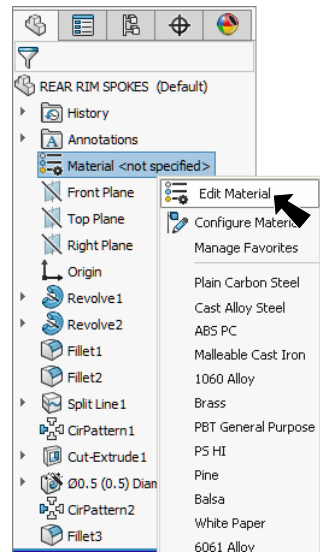

Fig. 50
Step 1. Right click **Material**  in the Feature Manager and click **Edit Material**, Fig. 50.